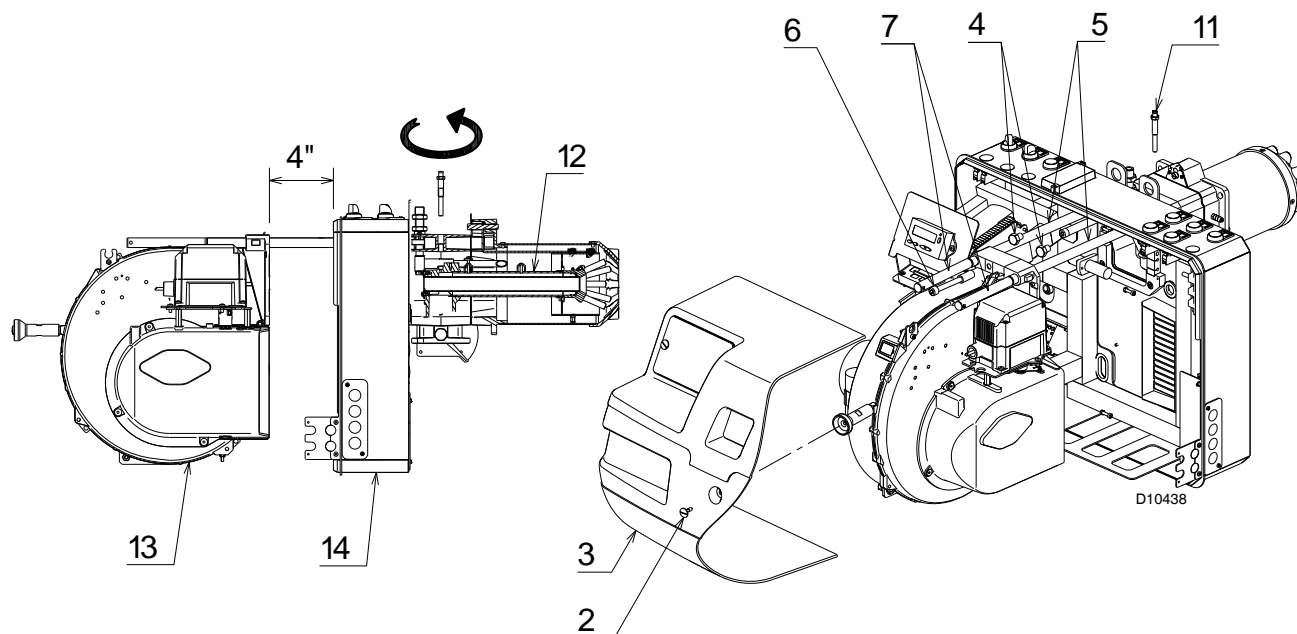

Fig. 16
- remove screws 2)(Fig. 16) and withdraw the cover 3);